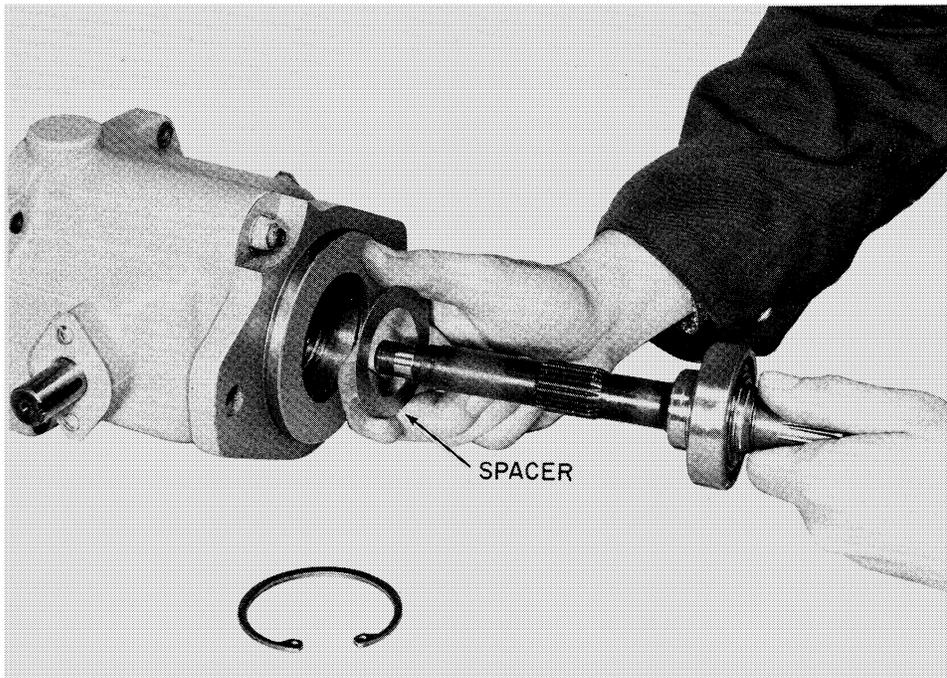

FIGURE 27
17. Remove the spacer that fits between the bearing and shaft seal. See Figure 27.